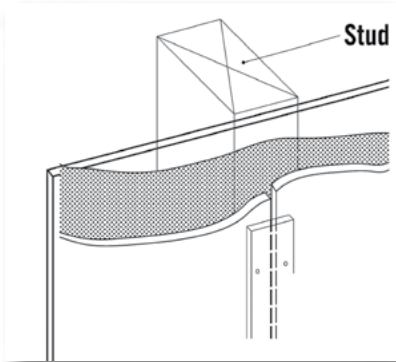

Fig. 12.1
- Cover the joint with a minimum 1-1/2" width batten strip. The batten strip may be fiber cement, wood, or PVC material. Caulk the vertical edge between the batten strip and NichiPanel. (Fig. 12.1)